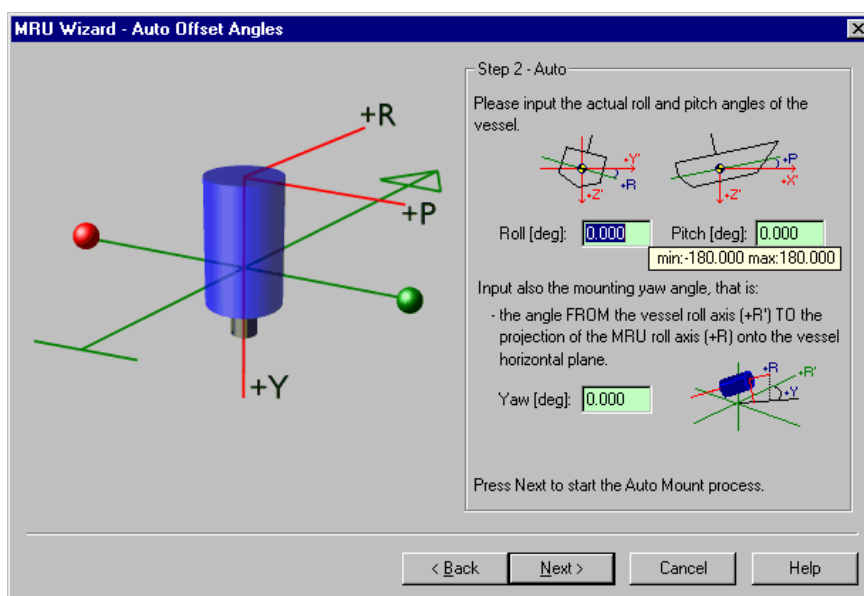

Figure 51 Step 2 of Auto MRU Axis Orientation
- Automatic setup selected in Step 1. Click **Next** to go to the **Step 2 –Auto** window, as shown in Figure 51.